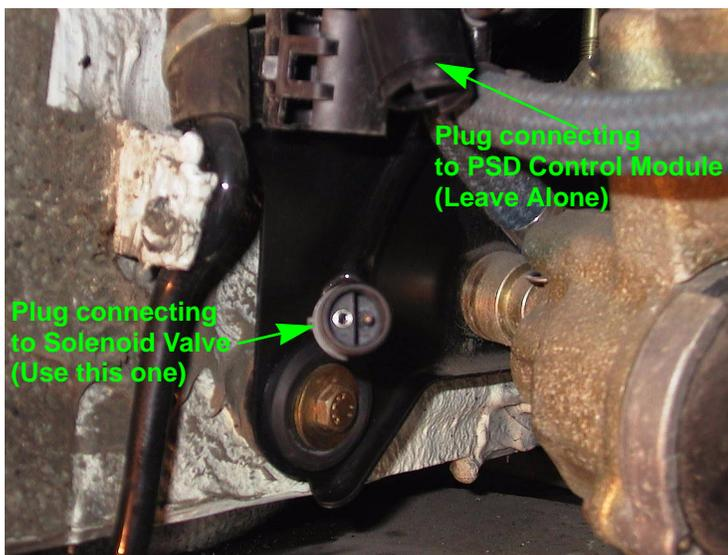

FIGURE 3
The lock solenoid valve connector has a sleeve around it to hold it together and keep it located. Unlatch and remove the sleeve with a flat screwdriver. Figure 3 below depicts the connector. The end going to the lock solenoid valve (front facing) is the end you will be working with latter. Ignore the other end.
25. Locate the lock solenoid valve connector from step 11. See "Figure 3" on page 4.